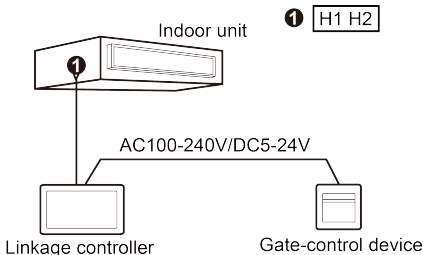

Fig.5.12 Connection fashion 1 of Wired Controller and Gate Control
- ① The linkage controller in figure 5.12 should be set as master HBS device.